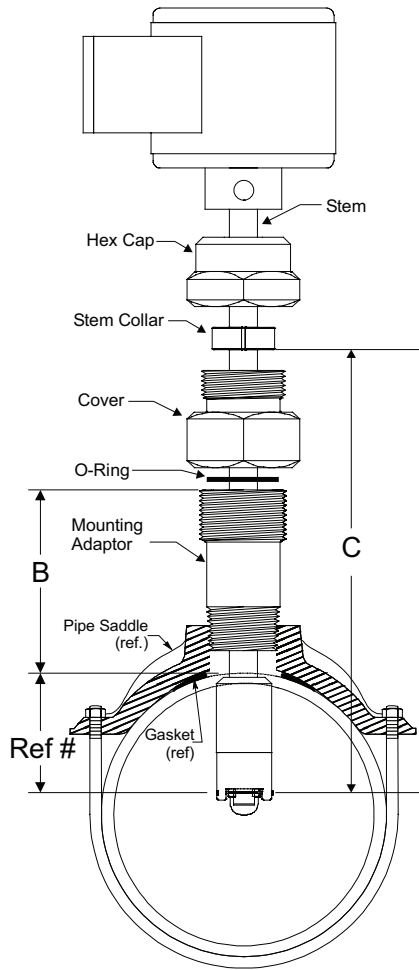

Figure 5: Dimensions B" and "C"
4. The sensor rotor assembly is to be located a fixed distance from the center of the pipe. To position the impeller at this depth, a reference measurement for the pipe size and schedule is used. Look up the pipe size and schedule number in **Table A** and note the reference number. Next, measure from the outside wall of the pipe to the top of the installed mounting adapter "B" in Figure 5. Add this number to the reference measurement.
The resulting number, "C" in Figure 5 is the distance from the recess of the sensor tip to the bottom of the stem collar. Insert the metal tab of a tape measure into the recess of the flow sensor tip. Extend the tape up the stem and mark the shaft with a pencil. Slide the collar along the shaft until its bottom surface is at the mark on the stem. Tighten the cap screw on the collar. When the sensor is reassembled, this will set the insertion depth of the sensor.